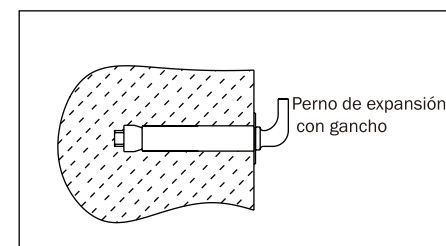

Fig. 2
- After selecting a proper location, determine the positions of the two holes used for expansion bolts with hook . Make two holes in the wall with the corresponding depth and size matching the expansion bolts attached with the heater insert the screws, turn the hook upwards, tighten the nuts to fix firmly, and then hang the electric water heater on it (see Fig.2.).
(Fig.2)